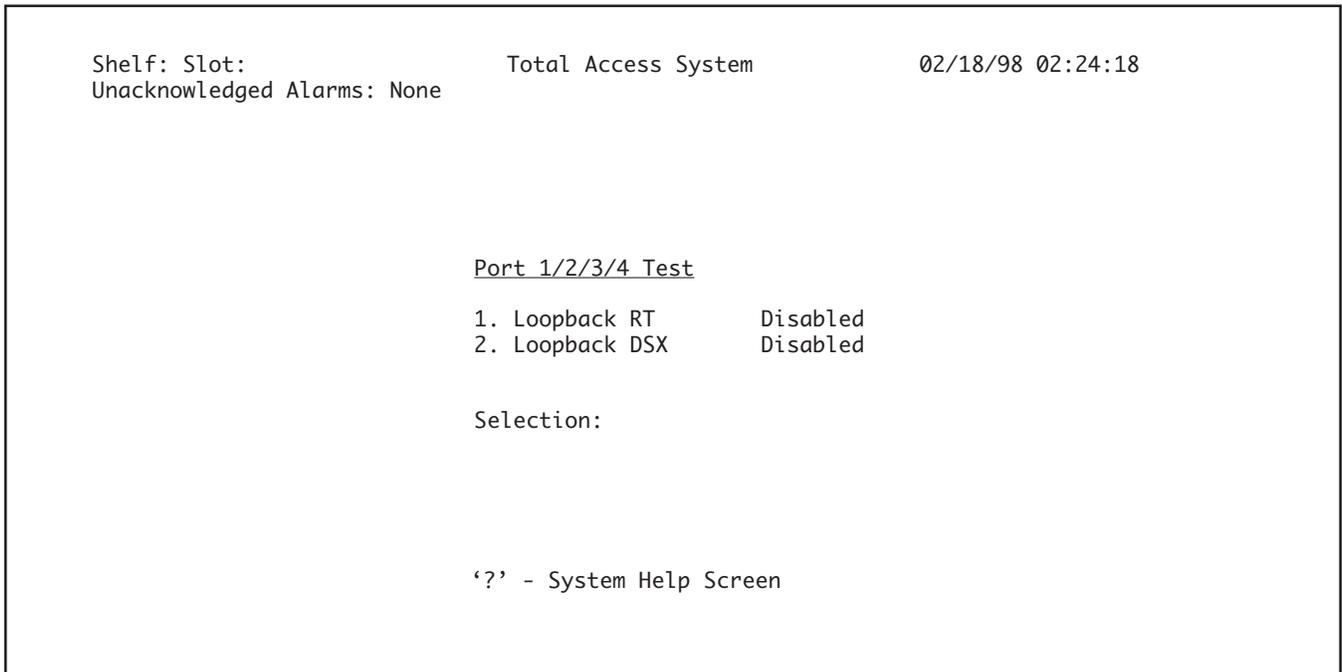

Figure 29. Port Test Screen
1. From the Test Screen, type the number that corresponds to the desired port and press Enter. The Port Test Screen (**Figure 29**) displays.